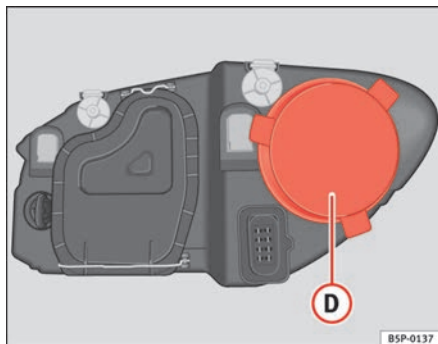

Fig. 168 Side lights
- Remove the cover ⇒ fig. 168 ① by pulling on this.